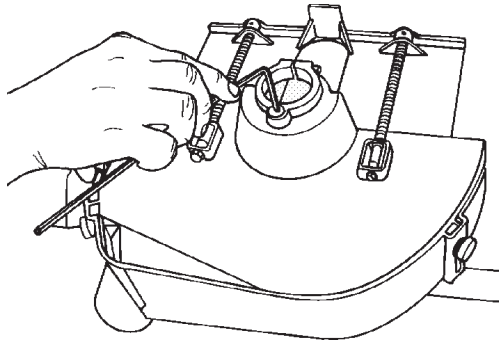

Figure C-70
- c. Use a 5/32" Allen wrench to adjust the stop screw (211) located below the lower saw guard's collar, as shown in Figure C-70.